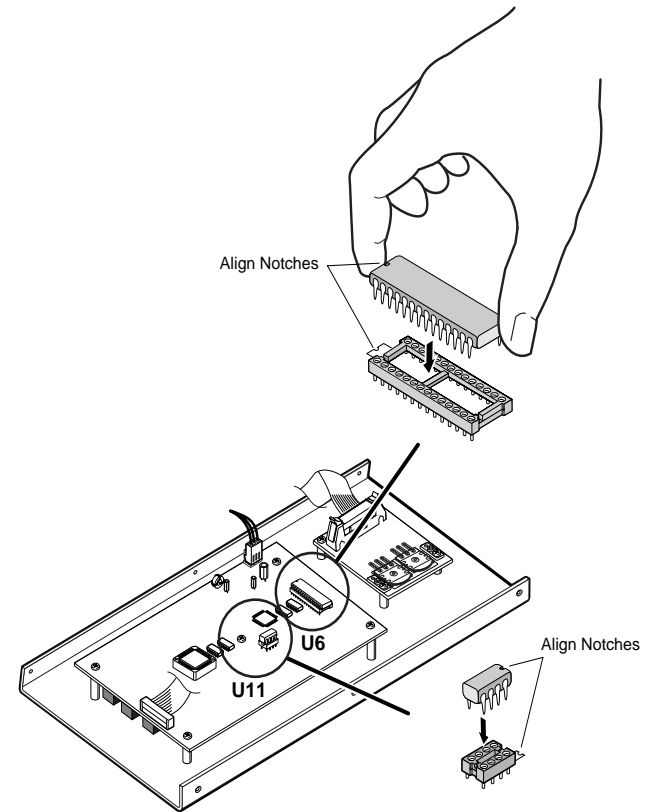

Figure A-2 — Locating and replacing ICs
4. Locate the ICs to be replaced (figure A-2). The update kit will list the specific ICs.